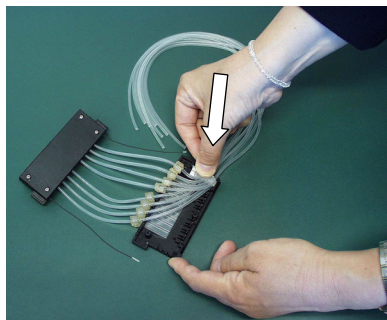

Figure 5–36. Pressing the tubing identification plate into place
9. Press each tube fastener into place in its groove on the plastic sight window (Figure 5–37).